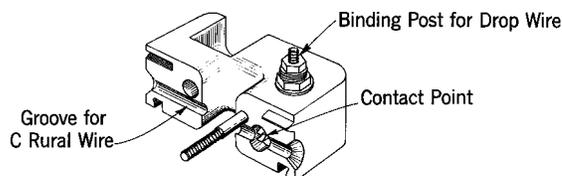

Fig. 1 - 107A2 Wire Terminal (Half section view)
2.01 The 107A2 Wire Terminal is similar to its predecessor, the 107A1, except that it is smaller and lighter. It consists of a pair of molded blocks, each equipped with a binding post which terminates in an insulation piercing contact point, as shown in the half section view in Fig. 1. Space is provided on each binding post for the termination of two wires. A flexible neoprene cover and strips of sealing compound are provided with the terminal.